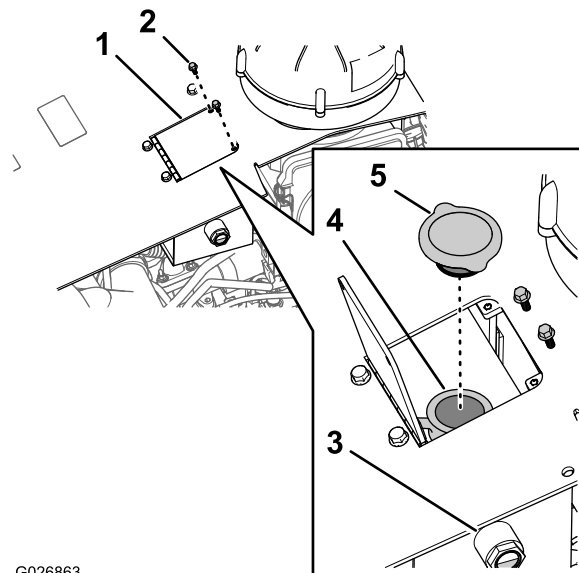
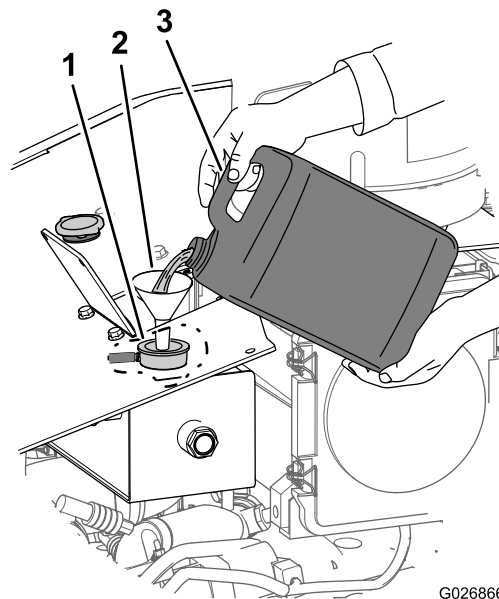

Figure 98
Figure 105
4. Check the coolant level by looking at the sight gauge in the side of the surge tank (Figure 98).
- A. Remove the 2 hex-head bolts that secure the to the hood of the machine, and open the reservoir door (Figure 98).
- B. Remove the recovery-tank cap from the recovery tank, and add coolant until the level is up to the midpoint of the sight gauge (Figure 98).
2. Remove the 2 hex-head bolts that secure the reservoir door to the hood and open the door (Figure 98).
3. Remove the recovery-tank cap from the tank (Figure 98).
1. Remove the radiator cap from the recovery tank (Figure 98).
2. Fill the cooling system with the specified coolant mixture (Figure 105) until the fluid level is up to the midpoint in the sight gauge (Figure 98).
3. Install the recovery-tank cap (Figure 98).
7. Close the reservoir door and secure it to the hood with the 2 hex-head bolts (Figure 98) that you removed in step 2 of Draining the Coolant from the System (page 66).